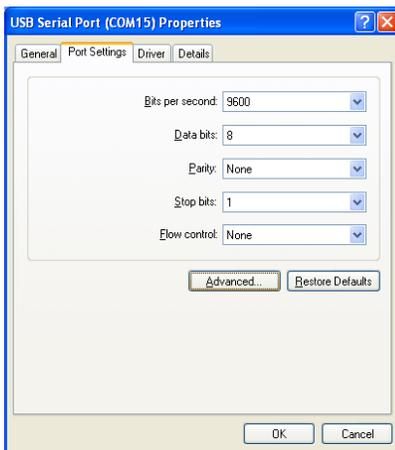

Figure 10. Port Settings Tab of the "USB Serial Port Properties" dialog box.
5. **Double click on the "USB Serial Port" listing.** This will open the "USB Serial Port (COM 15) Properties" dialog box (Figure 10).
6. **Select the "Port Settings" Tab.** This will display the port settings (Figure 10).